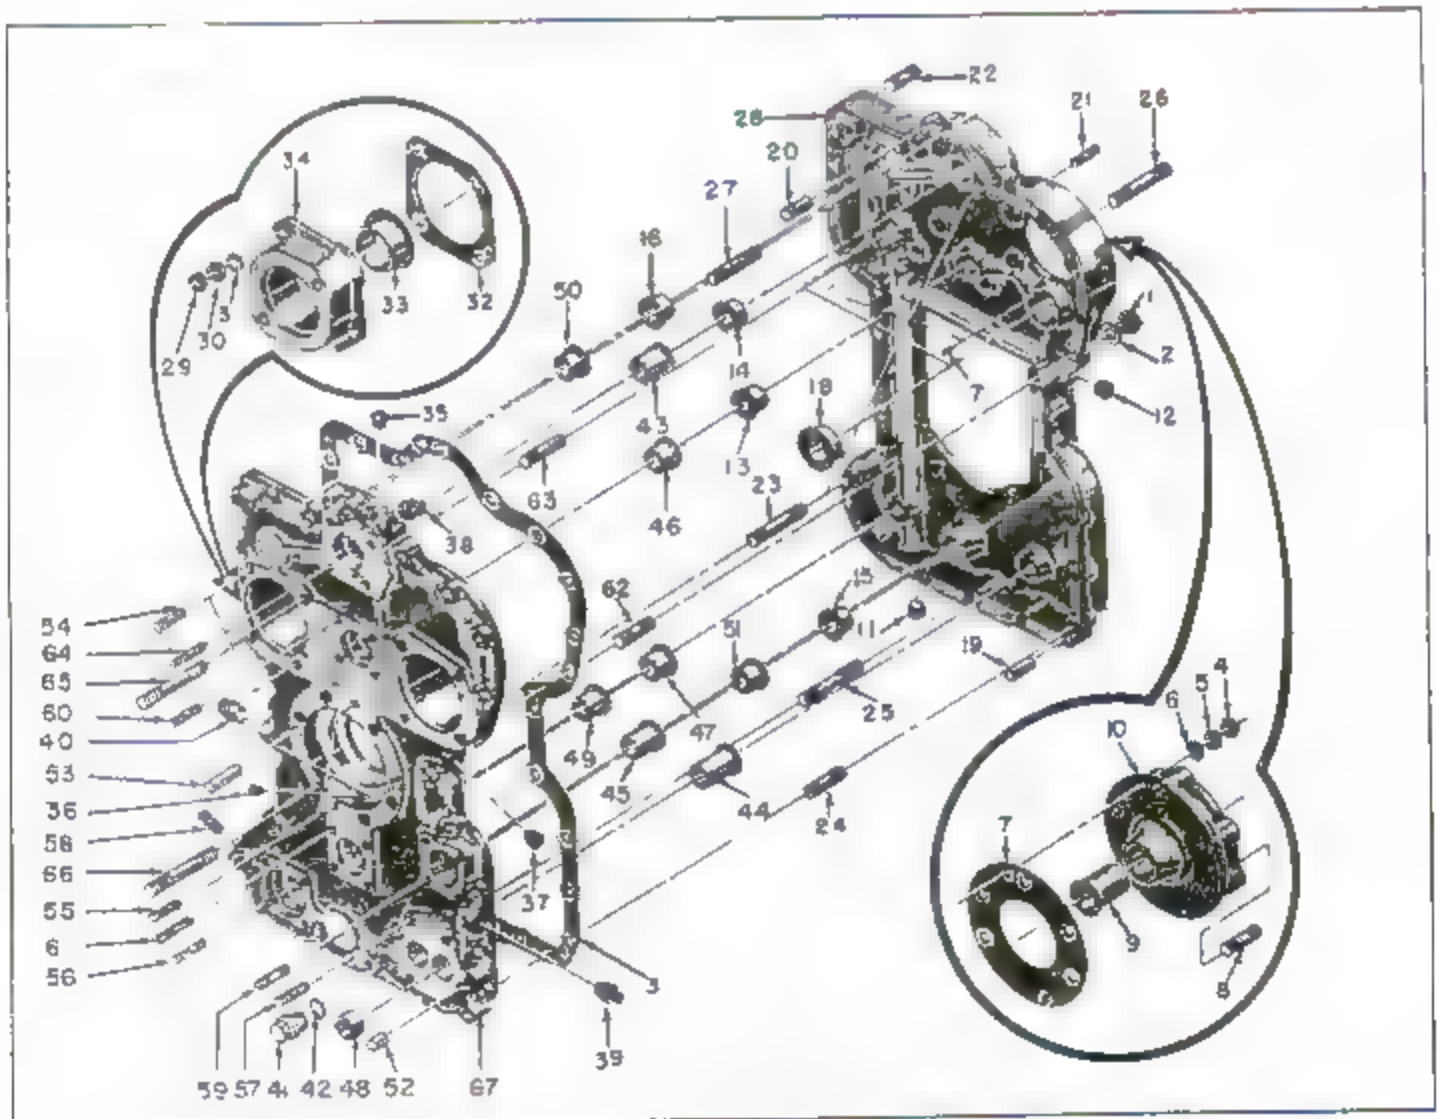

Figure 2-4 View of Accessory Case Front and Rear Machining Assembly (Sheet 2 of 2)
**2-41. MACHINING AND STUDDING ASSEMBLIES.** (See figure 2-4.) The accessory case front half (28) machining and studding assembly is composed of the magnesium casting, its studs, bushings, pipe plugs and dowels, the generator adapter assembly, and its attaching parts (4, 5, 6, and 7). The generator adapter assembly consists of the generator adapter (10), generator drive bushing (9) and the bottom stud (8) of six which attach the generator. The other five generator attaching studs (26) are driven in tapped holes in the adapter mount pad of the case and project forward through adapter holes and beyond the generator mount pad. The adapter is attached to two case studs (21).
Four studs (22) are driven into tapped holes of the upper hydraulic pump pad to attach a pump or cover. One long stud (25), two long studs (23) and 14 shorter studs (24) are driven into tapped holes in the front half parting flange for attachment of the two halves. Steel dowels (19 and 20) are pressed into front half parting flange holes that fit closely in matching holes of the rear half casting to align the two halves of the case. Flanged bronze bushings (13, 14, 15, 16, and 18) are pressed into bored and oil grooved bosses of the front half. The boss oil grooves are fed by a network of drilled holes, and the bushing walls are drilled through to admit oil to the bearing surfaces. The accessory case rear half machining and studding assembly is composed of the accessory case rear half (67), its studs, bushings, pipe plugs and dowels, two cast magnesium magneto adapter assemblies and their attaching parts (29, 30, 31, and 32). The front half machining and studding assembly is sealed to the rear half assembly by a gasket (3) and the two halves are attached for shipment by two plain washers (2) and plain nuts (1). These assemblies and attaching parts constitute the accessory case front and rear machining assembly. Nut locks (44, figure 2-3) are not supplied with this assembly as a spare part, nor are attaching parts in figure 2-3 numbered 35, 36, 37, 38, 39, 40, 41, 42, and 43, though these parts are installed when the complete case is built up. The last named attaching parts are installed on studs of the front half assembly which project through rear half bosses of various depths. In figure 2-4, attaching parts numbered 1 and 2 are installed on studs (62 and 63) which are driven in the parting flange of the rear half. Bushings installed in the rear half are similar to those in the front half and are drilled to receive oil from case grooves connected by an upper and a lower network of drilled holes. Magneto and generator adapter bushings are also drilled for lubrication and the adapters are grooved and drilled to receive oil from the case passages. The magneto adapter assemblies are composed of adapters (34) and bushings (33). These assemblies and the generator adapter assembly are installed before their bushings are finish bored. This is necessary in order to line bore front and rear magneto gear bushings and to bore these and the generator adapter bushing at the correct distances from other bushings to maintain the correct gear spacing and backlash.